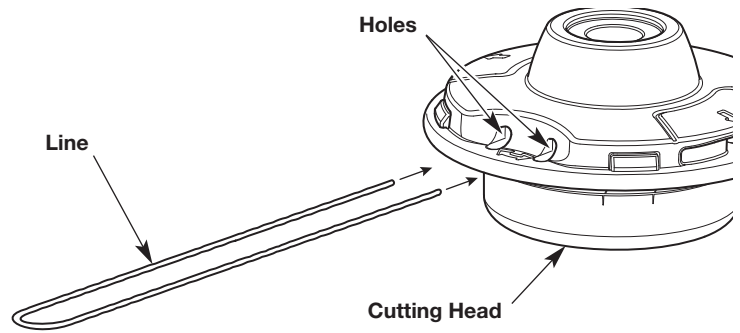
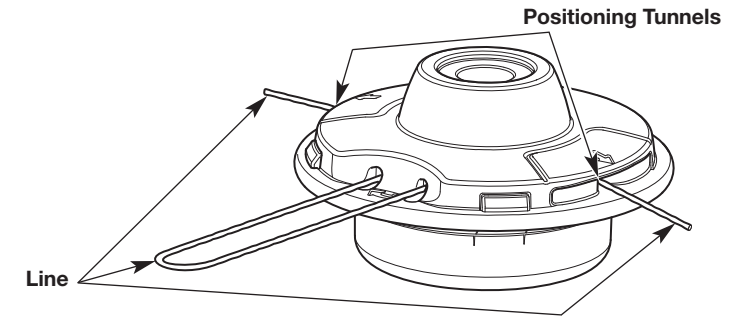

Fig. 9
Fig. 10
3. Insert the ends of the line through the holes in the side of the cutting head (Fig. 9). Push the line through the holes until both ends protrude from the positioning tunnels (Fig. 10).